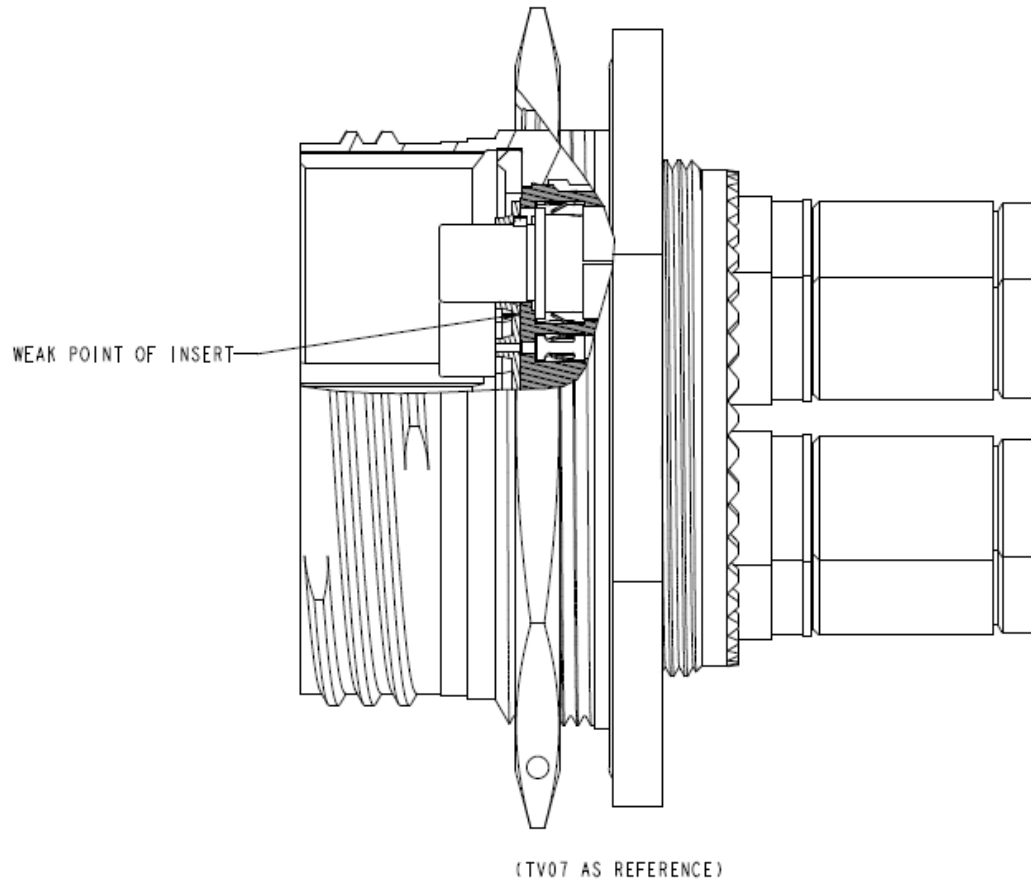

FIGURE 4
- Due to the resistance created by the integrated Octonet removal tool and friction from rear grommet, extra caution must be taken when pushing the contact into the contact cavity, as the contact can damage the insert if pushed too hard when improperly aligned. See Figure 4